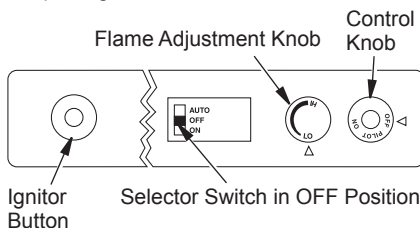

Figure 21 - Control Knob and Ignitor Button Location (Shown as Supplied, No Control Options)
4. Press in and turn control knob clockwise to the OFF position (see Figure 21).
5. Wait five (5) minutes to clear out any gas. Then smell for gas, including near the floor. If you smell gas, STOP! Follow "B" in the safety information, page 18. If you don't smell gas, go to the next step.
6. Press in and turn control knob counterclockwise to the PILOT position. Press in control knob for five (5) seconds (see Figure 21).